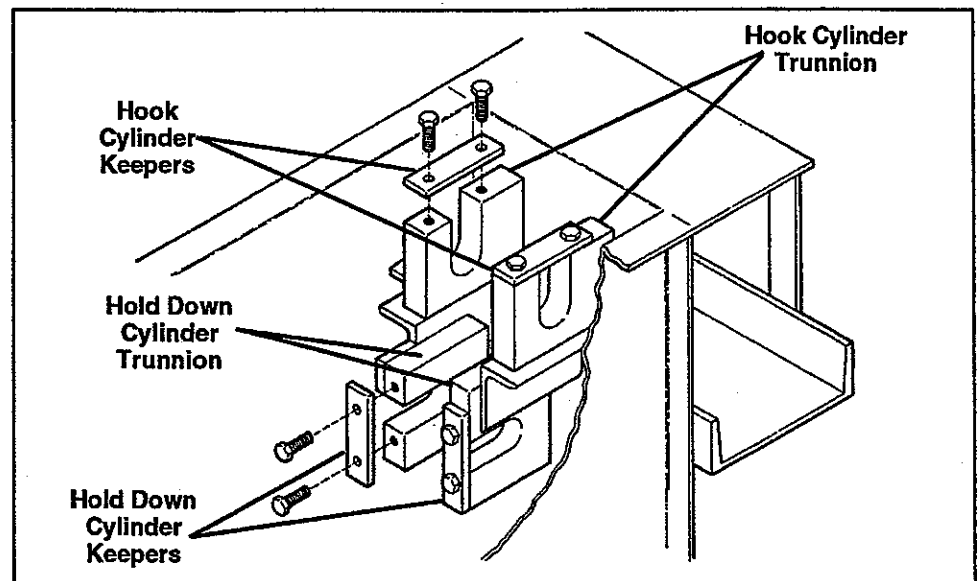

Fig. 10. Cylinder Trunnions and Keepers
A. Remove the two cylinder keepers for each cylinder. The keepers are located on the trunnion weldments inside the pan. See Figure 10.